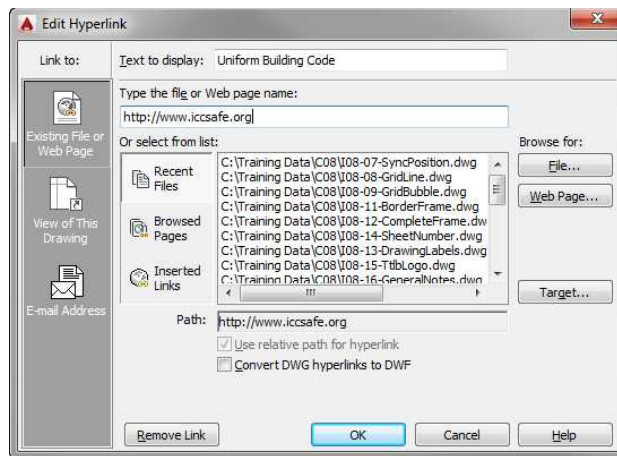

FIGURE 8.67: The Edit Hyperlink dialog box
8. Click the Hyperlink button. In the Edit Hyperlink dialog box (shown in Figure 8.67), you can do any of the following: